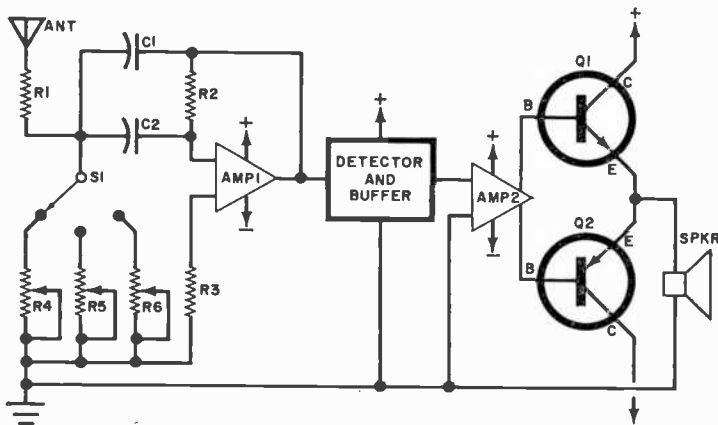

Fig. 1. Reader's proposed radio receiver circuit design uses Amp 1 as active filter/amplifier; Amp 2 as straight amplifier. Amps are integrated circuits.
**Reader's Circuit.** Reviewing the specifications of commercially available linear IC amplifiers, SP4 Mark Mondt (478-69-4366, HHT 3d Sqdn, 7th Cavalry, APO New York 09033), discovered that many of these devices have frequency responses extending well into the MHz ranges. RCA's CA3020, for example, can be used to frequencies as high as 8 MHz with a resistive load, while their CA3023 is useful to 16 MHz. Realizing this and knowing that an amplifier can be used as an active filter with a suitable feedback network, Mark has theorized that an R-C tuned receiver might be a feasible project. He submitted the tentative circuit given in Fig. 1 to illustrate his thoughts, suggesting that other readers might like to experiment with this approach to receiver design.